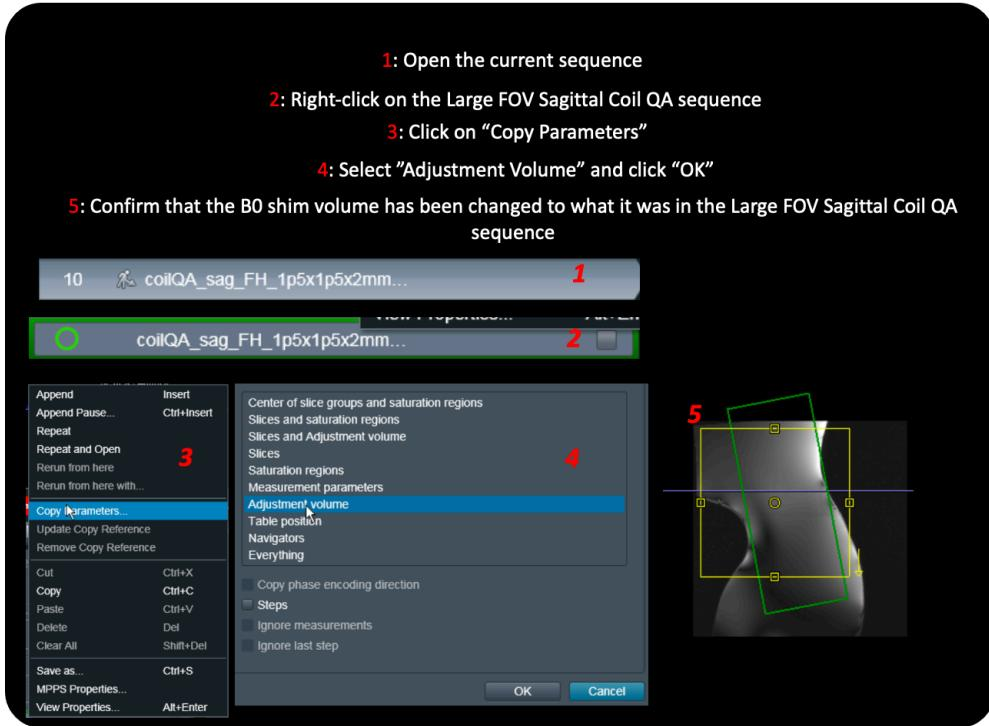

Figure 10. Guide on copying “Adjustment Volume”, eg the B0 shim box, from one scan to the next
- **Copy the Adjustment Volume from the Large FOV Sagittal Coil QA scan, as shown in Figure 10,** by right clicking on the Large FOV Sagittal Coil QA scan, and selecting “Copy Parameters→ Adjustment Volume”
- **Copy the Adjustment Volume from the TFL_B1map scan, as shown in Figure 10,** by right clicking on the TFL_B1map scan, and selecting “Copy Parameters→ Adjustment Volume”.